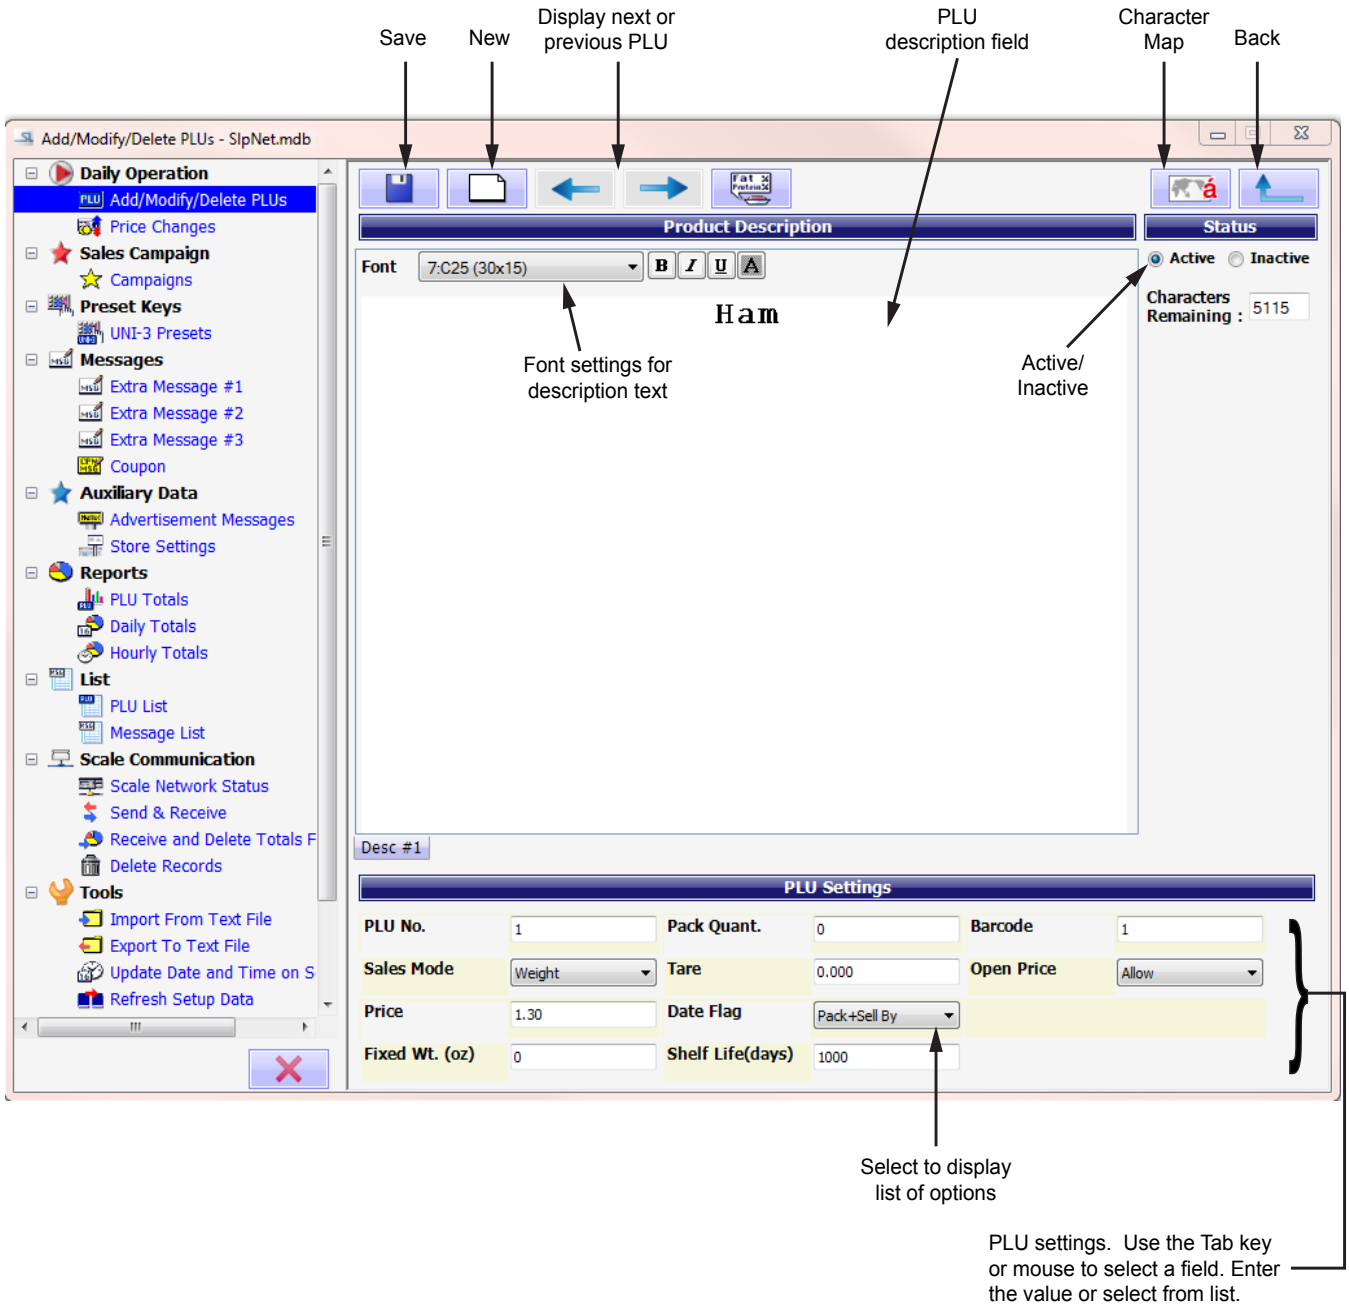

Figure 17-1
3. Select the Edit button or double-click on a PLU to display the PLU Edit window. See Figure 17-1.